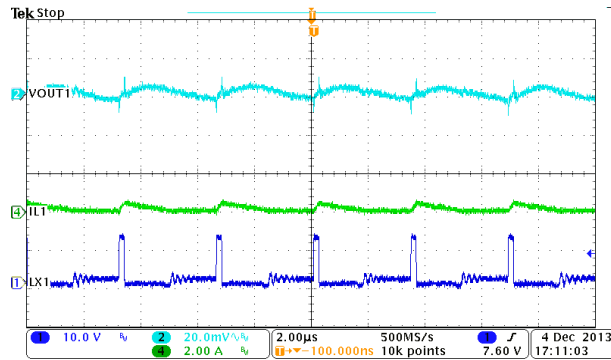
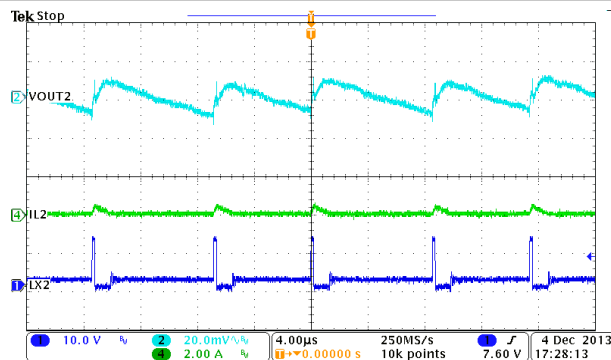
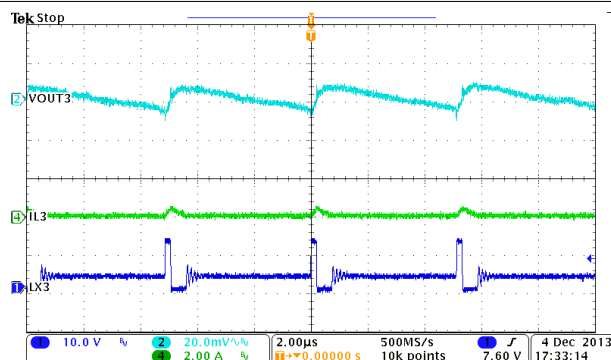

图 9-8. Buck1, Steady State Operation at Light Load
图 9-10. Buck2, Steady State Operation at Light Load
图 9-12. Buck3, Steady State Operation at Light Load
The device is designed to operate in high-efficiency PSM under light load conditions. Pulse skipping is initiated when the switch current falls to 0.23 A. During pulse skipping, the low-side FET is turned off. The switching node (LX) waveform takes on the characteristics of DCM operation and the apparent switching frequency decreases as shown in 图 9-8, 图 9-10, and 图 9-12.